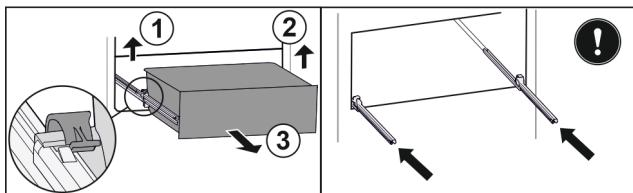

Fig. 27*
- ▶ Lift the left clamp and simultaneously pull the drawer on the left forwards Fig. 27 (1).*
- ▶ Lift the right clamp and simultaneously pull the drawer on the right forwards Fig. 27 (2).*
- ▶ Take out the drawer to the front Fig. 27 (3).*